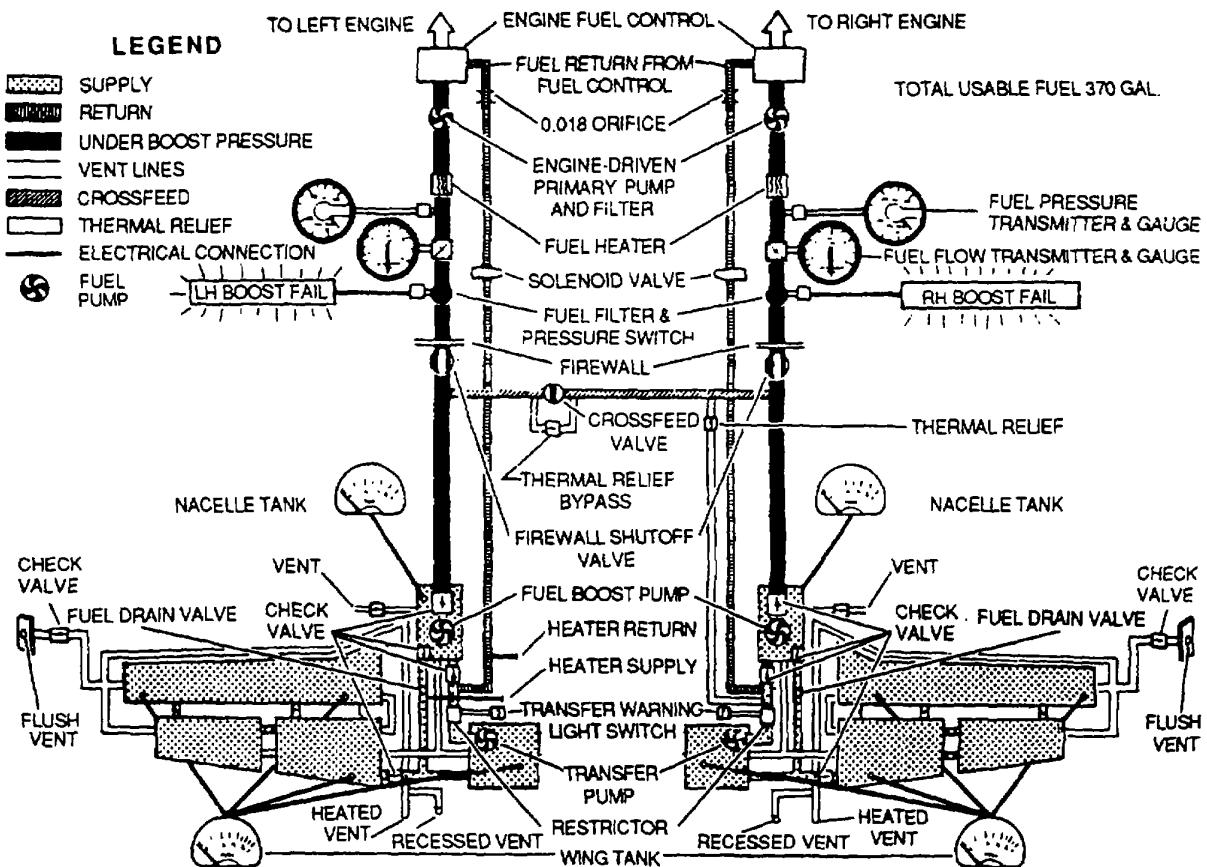

Figure 2-21. Typical Fuel System Schematic
j. Fuel System Troubleshooting. Troubleshooting should be accomplished in accordance with applicable aircraft maintenance manuals. A typical troubleshooting chart and a schematic are shown in table 2-9 and figure 2-21.